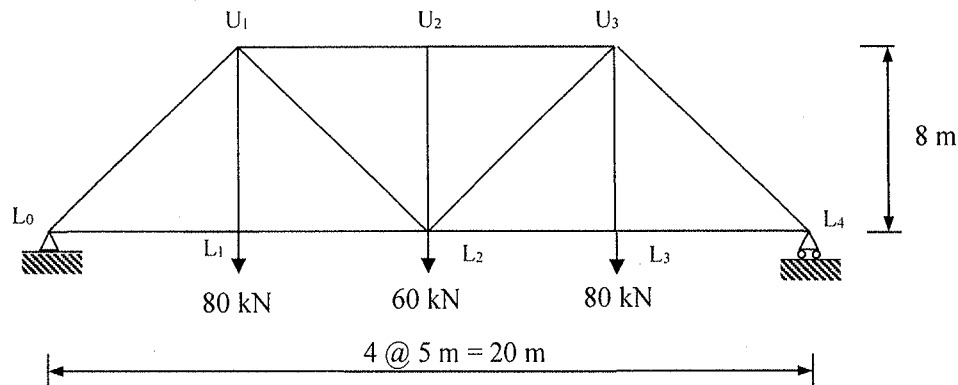

Figure Q3
- (ii) A pin-jointed truss is loaded as shown in Figure Q3. Determine member forces using the method of sections and method of joints. (12 Marks)